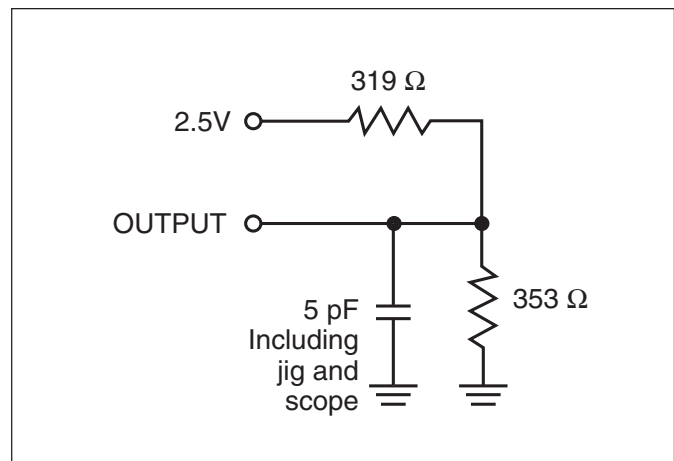

Figure 1b.
2. Tested with the load in Figure 1b. Transition is measured ±500 mV from steady-state voltage. Not 100% tested.